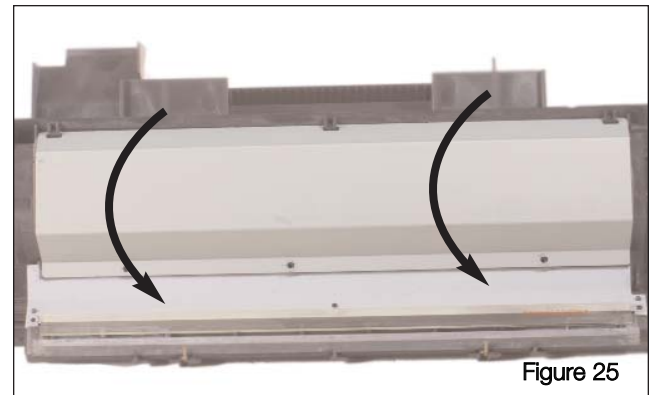

Figure 25
2. Install the Waste Bin Cover, fit under notches and rotate downward, see Figure 25.